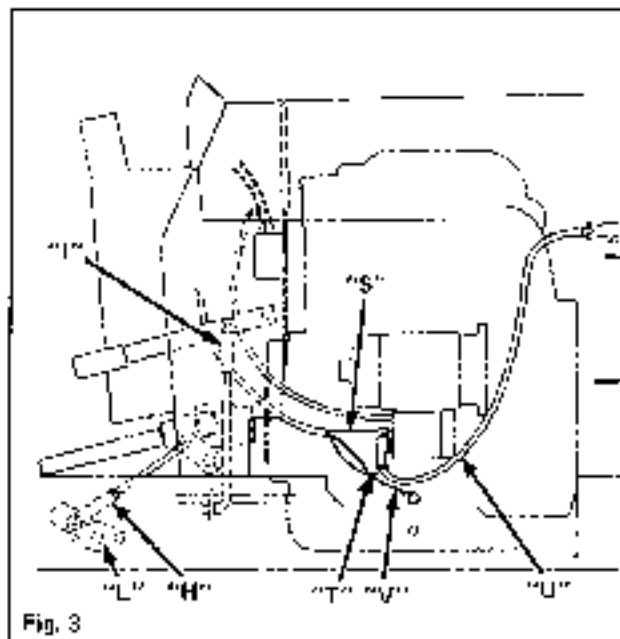
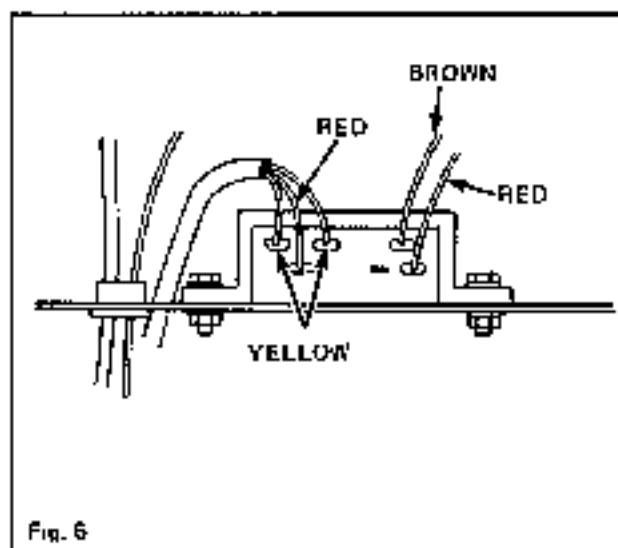

Fig. 3
Fig. 6
16. The (4) engine cradle mounting screws.
18. Brake rod (H) Fig. 3 from center shaft.
19. PTO rod (I) Fig. 3 inside instrument panel.
1. Position engine with drive shaft into frame. Make sure drive shaft is over center cross shaft (L) Fig. 3 of frame.
7. Reconnect hydro control rod to hydro arm, brake rod (H) Fig. 3 to center cross shaft and PTO rod (I) to PTO hand control.
- A. Single black wire (P) Fig. 3 from engine temp. switch, if equipped, to engine at manifold.
- B. Gray wire from wiring harness to engine oil pressure switch (Q) L.H. side.
- C. Yellow with red stripe from harness to fuel solenoid (R) L.H. side.
- D. Red with yellow stripe to back of starter solenoid (S) Fig. 3 R.H. side
- E. Red wire (T) of harness and positive red wire of battery (U) to screw terminal on starter.
- F. Secure black lead (V) of harness to R.H. engine cradle with (2) star washers and screw.
- G. Two yellow and one red lead of harness to regulator as shown in Fig. 6.
- H. Red and brown lead of harness to regulator as shown in Fig. 6.
26. Connect RED lead (V) Fig. 3 from starter to POSITIVE post.